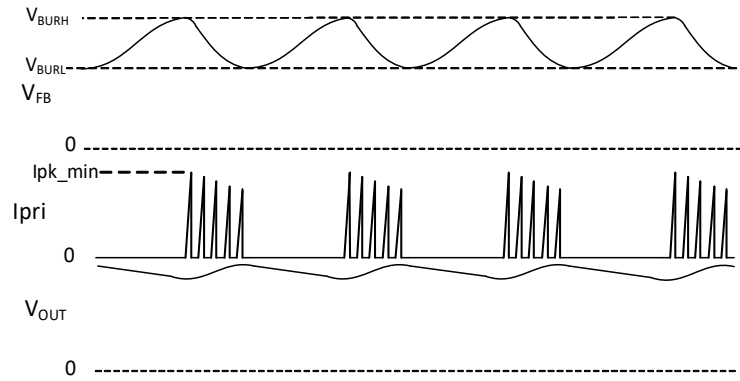

Figure 23. Burst Mode Operation at Light Load
- Burst Mode – At light load, the regulator transitions into the burst mode operation to save IC power consumption. While the load decreases, the FB voltage is reduced. When the load drops below  $V_{BURL}$ , the part enters burst mode operation, and the IC stops switching. When FB voltage rises back to  $V_{BURH}$ , the IC resumes switching until FB voltage falls back to  $V_{BURL}$ . In Burst mode, the peak current is typically not more than  $V_{CS\_MIN}/R_S$  excluding the overshoot, and the burst frequency is below 3kHz, which effectively minimizes the audible noises. See the Burst mode operation in Figure 23.